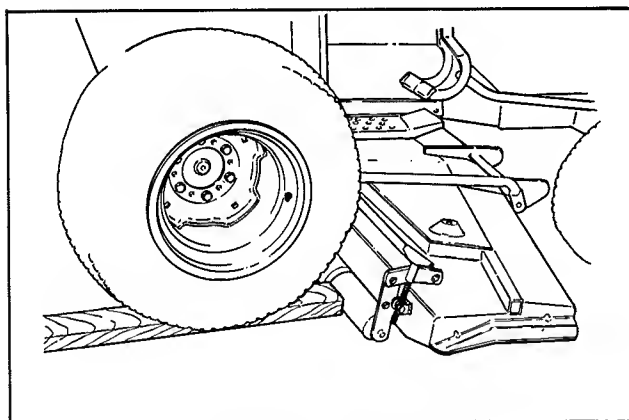

Figure 8. Setup Planks for Mower Removal
1. Back rear wheels of tractor onto a pair of planks. (See figure 8.) Stop when mower rollers touch front of planks.